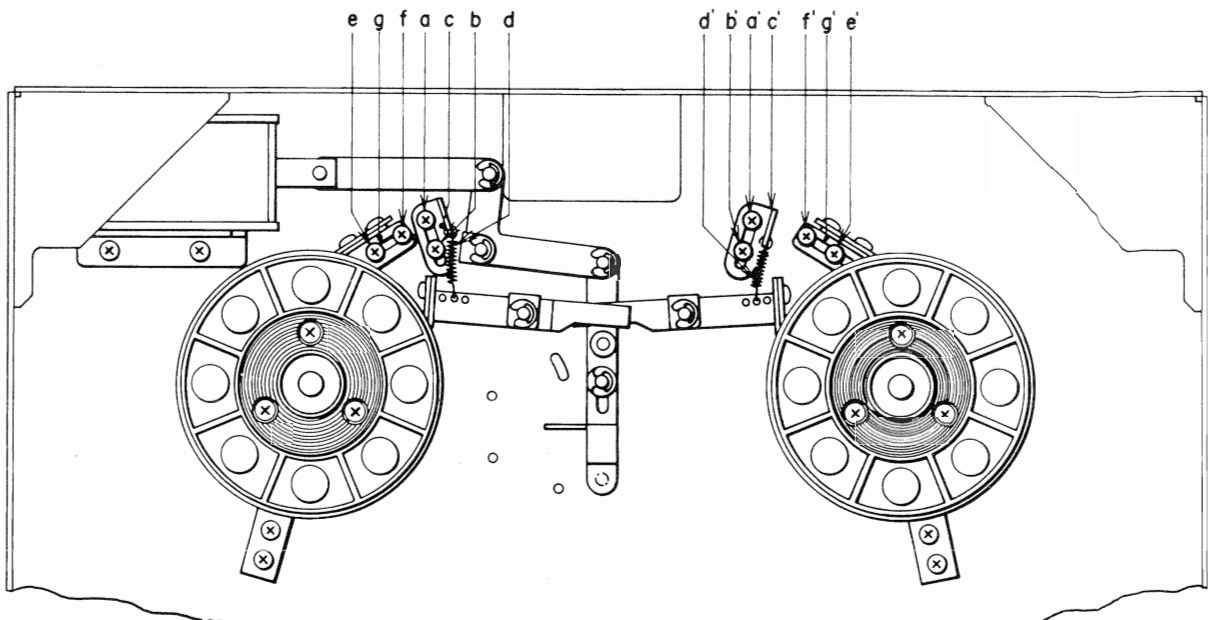

Fig. 11
- 2) Brake tension adjustment methods are as follows: (Refer to Fig. 11)